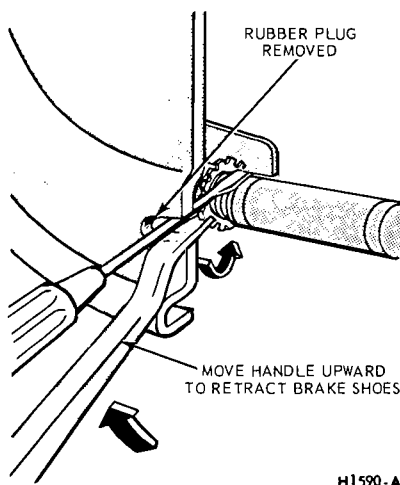

FIG. 6 Backing Off Brake Adjustment
4. If the drum will not come off, pry the rubber cover from the brake backing plate. Insert a narrow screwdriver through the slot and disengage the adjusting lever from the adjusting screw. While holding the adjusting lever away from the screw, back off the adjusting screw with the brake adjusting tool (Fig. 6). **Be very careful not to burr, chip, or damage the notches in the adjusting screw; otherwise the self-adjusting mechanism will not function properly.**
2. Remove the hub cap and wheel. Remove the three drum retainer nuts and remove the brake drum. If the drum will not come off, pry the rubber cover from the backing plate. Insert a narrow screwdriver through the hole in the backing plate, and disengage the adjusting lever from the adjusting screw. While holding the adjusting lever away from the adjusting screw, back off the adjusting screw with the brake adjusting tool (Fig. 6). **Be very careful not to burr, chip, or damage the notches in the adjusting screw; otherwise, the self-adjusting mechanism will not function properly.**